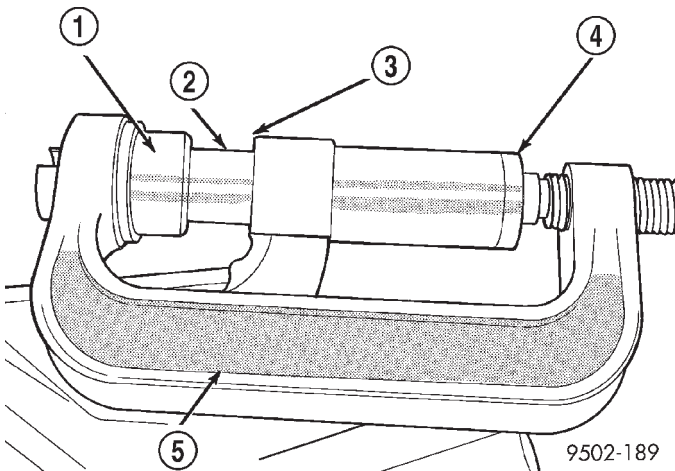

Fig. 82 Installing Front Bushing In Lower Control Arm
(1) Mount Bushing Installer, Special Tool 6876 on screw portion of Remover/Installer Special Tool C-4212-F (Fig. 82).
(2) Start front bushing into lower control arm **by hand, making sure it is square with its mounting hole in the lower control arm**. Bushing is to be installed in lower control arm from the machined surface side of lower control arm bushing hole.
(3) Install lower control arm on Special Tools assembled for installation of front isolator bushing
into lower control arm (Fig. 82). Be sure Special Tool 6758 is square on lower control arm and Special Tool 6876 is positioned correctly on isolator bushing.